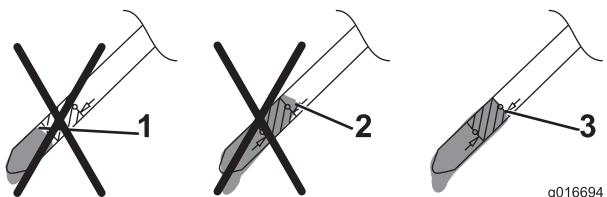

Figure 13
5. Read the oil level on the dipstick (Figure 13).
• If the oil level is too low, **slowly** pour a small amount of oil into the oil-fill tube, wait 3 minutes, and repeat steps 3 through 5 until the oil level is correct as shown in Figure 13.